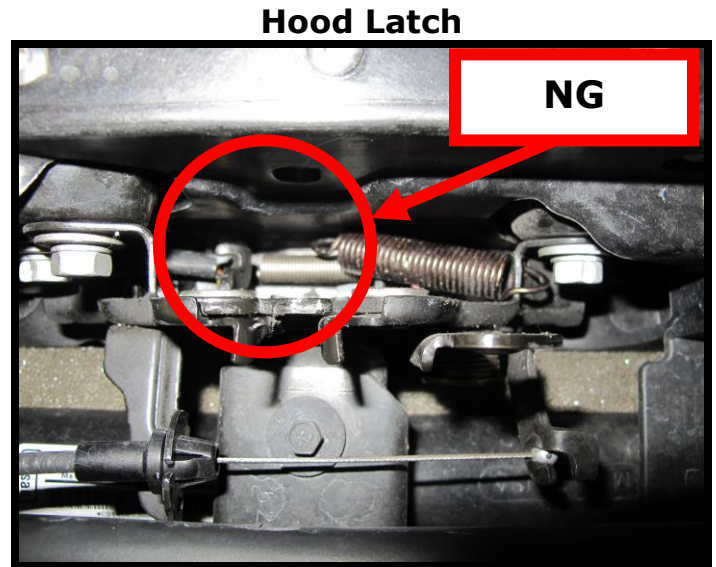

Figure 1
2. Inspect the black hood latch spring position (Figure 1):
- **If the hood latch spring is out of position, as shown in Figure 1, replace hood latch per the Electronic Service Manual (ESM).**
- **If the spring has dislodged (Figure 1), replace the hood latch assembly per the ESM.**